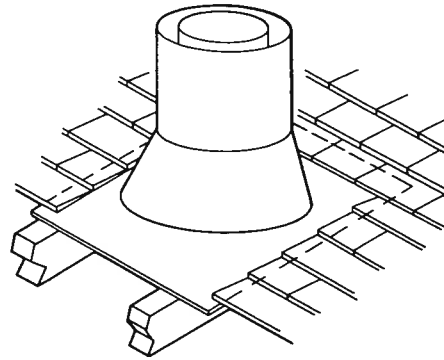

Figure 20
Step 7. Secure flashing by nailing along the perimeter into roof using 8d nails. If shingled roof, slide upper end and sides of roof flashing under shingles (trim if necessary), seal the top and both sides of the flashing to the roof with roof caulking. Cover nail heads with roof caulking (Figure 20).